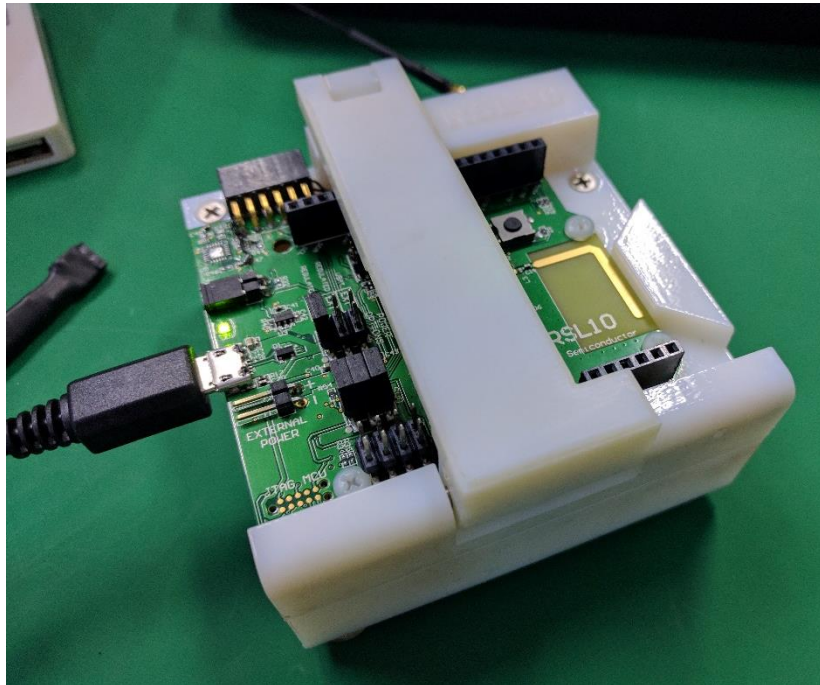

Figure 11: Proper placement of the board into the test jig.
2. Next place the board into the testing jig and connect the USB. See Figure 11.